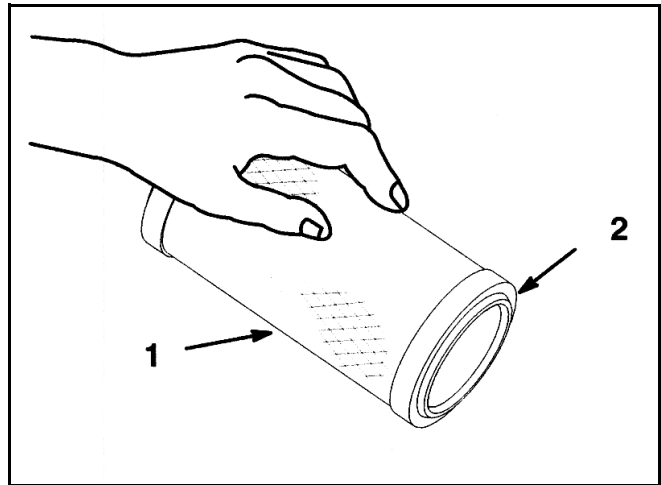

Figure 7
1. Lightly tap the element on a flat surface to remove dust and dirt (Figure 7).